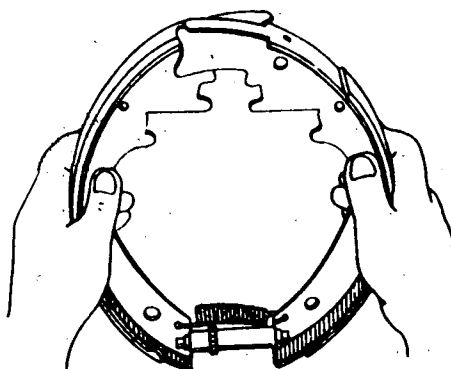

Fig. 6
- a) Re-assemble the brake shoe unit, adjuster, and bottom spring. (fig. 6).